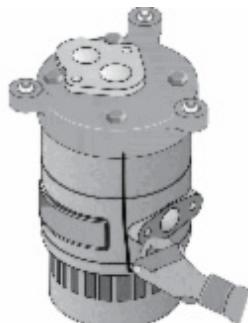

Figure 16
5. Draw a line down the side of the pump with a market to help alignment during reassembly. Mark the pump from the motor to the base volute (see Figure 16).